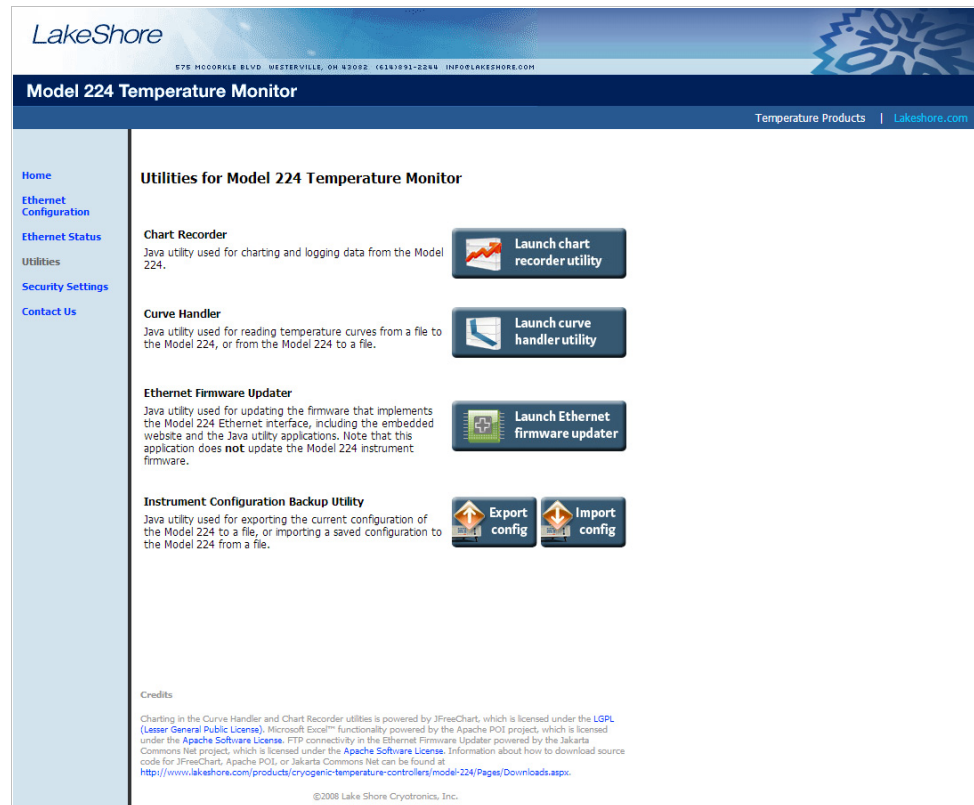

FIGURE 6-8 Utilities page
1. On the **Utilities** page in the Model 224 embedded website, click **Export config** (FIGURE 6-8).
1. On the **Utilities** page in the Model 224 embedded website, click **Import config** (FIGURE 6-8).